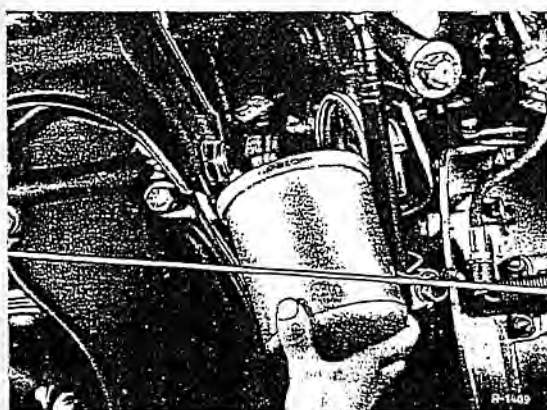

Fig. 18-1/3
- Remove oil filter base (6) and withdraw main flow filter element (3). Now withdraw oil filter base between tie-rod and front axle support (see Fig. 18-1/3). If there is not enough room, have an assistant pull the steering to the right until the oil filter base has been withdrawn. In addition, the engine may be raised slightly to facilitate withdrawal.